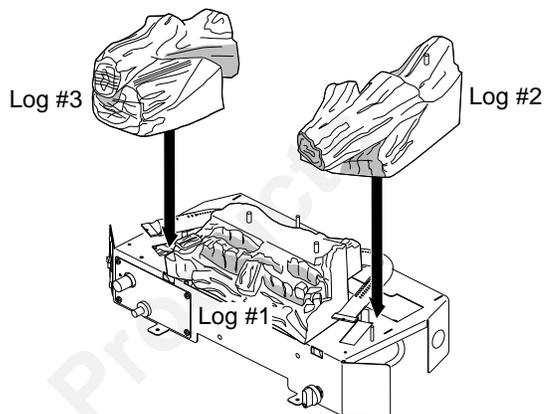

Figure 24 - Installing Log #2 (Right) and Log #3 (Left) (Model VRL30NR Shown)
2. Place log #2 to right of log #1 and onto log alignment screw as shown in Figure 24. Log #2 will wrap around right end of rear burner (see Figure 24).
3. Place log #3 on left side of base and onto alignment screw to right of rear burner (see Figure 24). Log #3 will wrap around left end of rear burner.